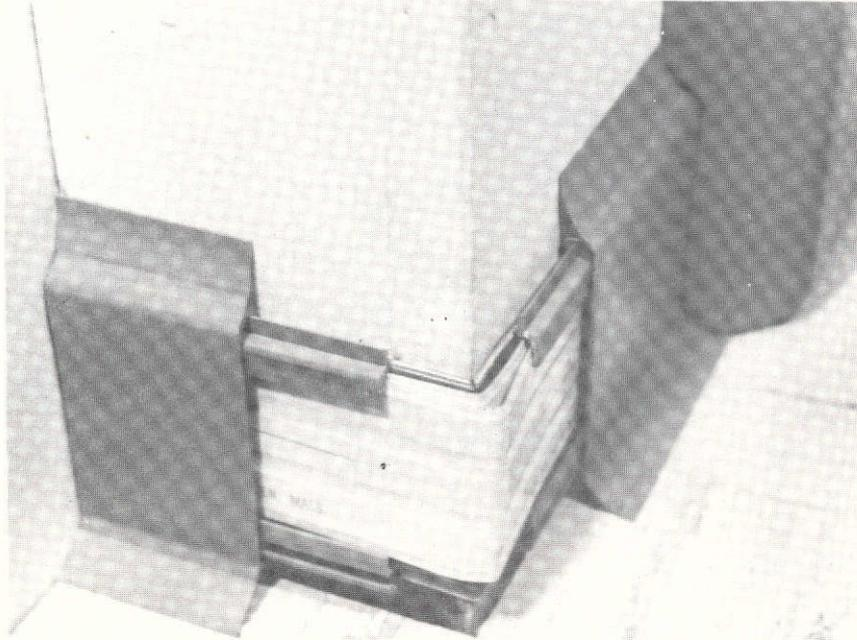
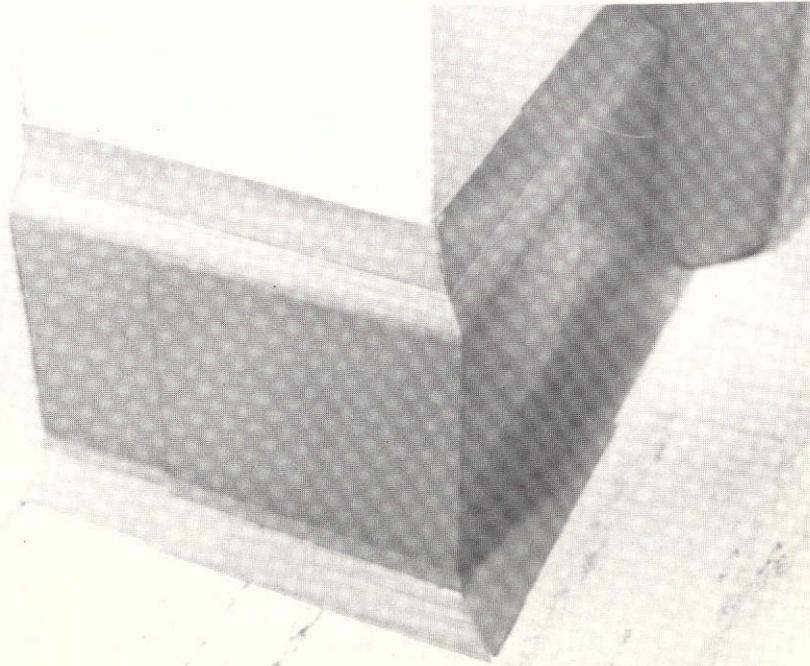

Figure 23. Outside Corner Before Corner Mold
Figure 24. Outside Corner After Corner Mold
1. The corner molds are installed in the same manner as the splice and front cover. The front cover must stop approximately 2" - 2 1/2" from the outside corners as noted in Figure 23. Figure 24 shows the outside corner mold installed. Use PVC cement to prevent easy removal.